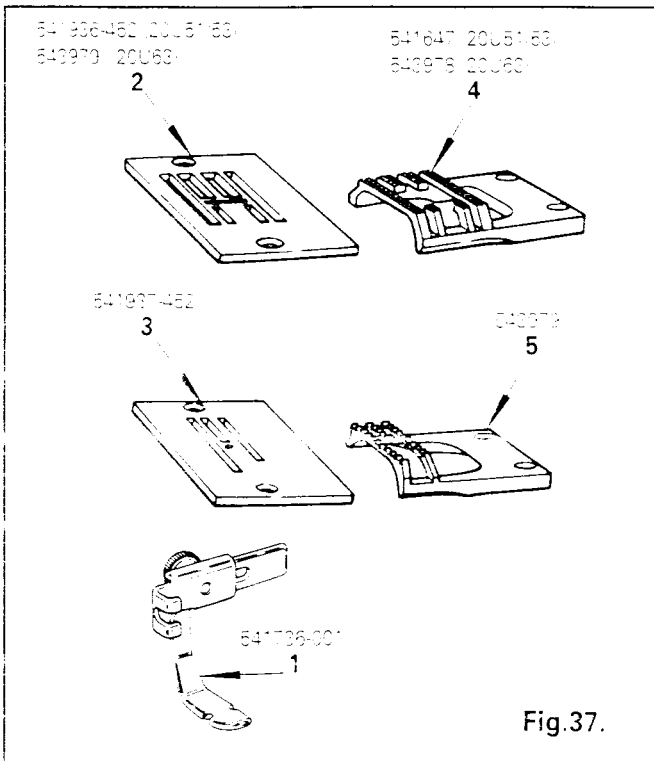

Fig. 37.
Zipper Foot (1), General Purpose (2) or Straight Stitch (3) Throat Plate and General Purpose (4) or Straight Stitch (5) Feed Dog as shown in Fig. 37 are used for zipper and cord sewing.